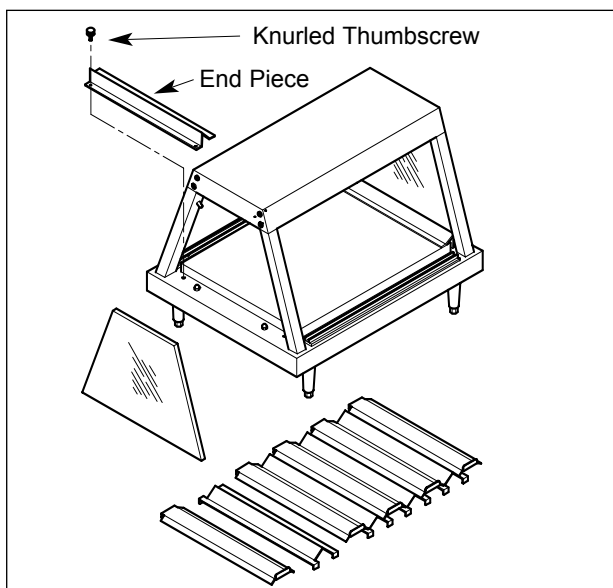

Figure 14. Sandwich Chutes - GRHD Models Only
3. Install the end pieces to the unit using knurled thumbscrews. Tighten securely but do not overtighten. See Figure 14.